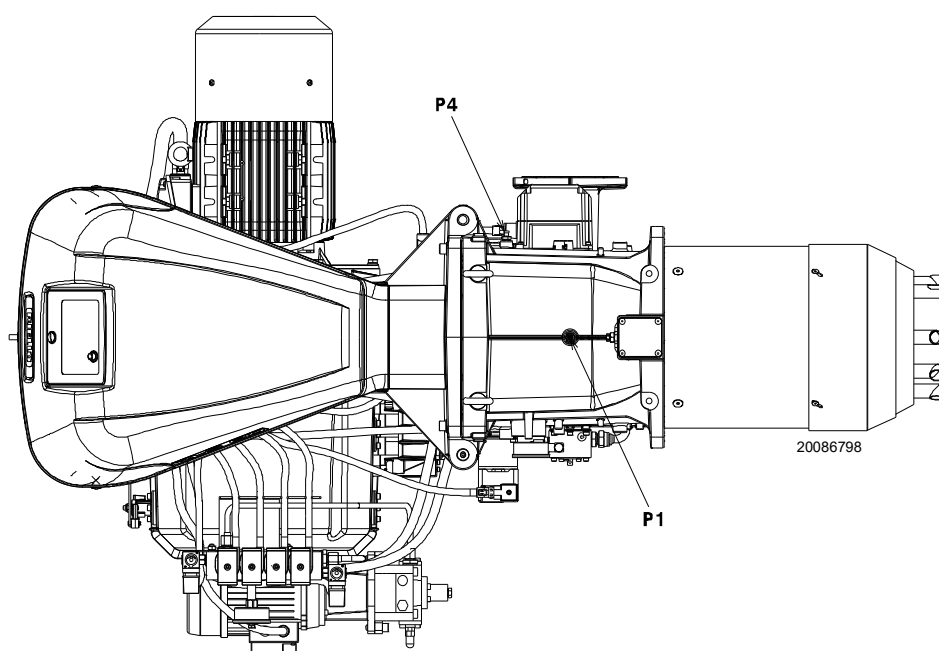

Fig. 28
Gas pressure measured at the test point P1)(Fig. 28), with:
- subtract the combustion chamber pressure from the gas pressure measured at test point P1)(Fig. 28).
Gas pressure at test point P1)(Fig. 28) = 29,4 mbar
To calculate the required gas pressure at test point P1)(Fig. 28), set the MAX output required from the burner operation:
- Read, on the right (column 1), the pressure at the test point P1)(Fig. 28).
Pressure required at test point P1)(Fig. 28).